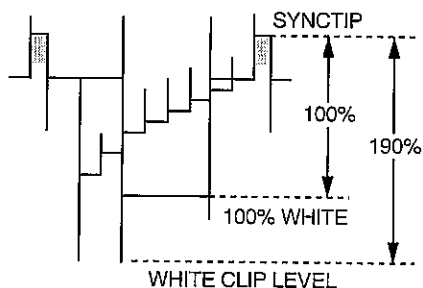

Figure 5-4.
1. Connect an oscilloscope to pin (77) of IC201 and GND.
3. Make sure that the overshoot of the video signal is clipped at 190% as shown in Figure 5-4.